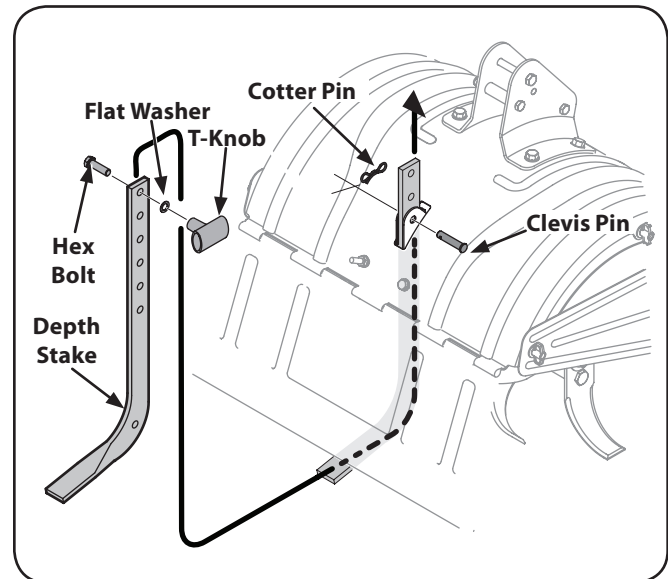

Figure 1-1
2. Un-thread the T-knob from the top of the depth stake and remove the flat washer and hex bolt. Remove the cotter pin from the clevis pin. See Figure 1-1.
5. Insert the hex bolt into the top hole of the depth stake assembly. Place the flat washer on the hex bolt and thread the T-knob onto the hex bolt. Tighten securely. See Figure 1-1.